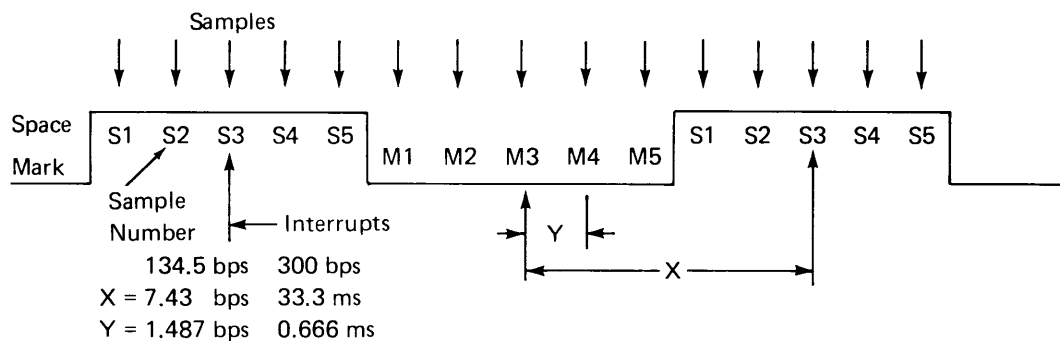
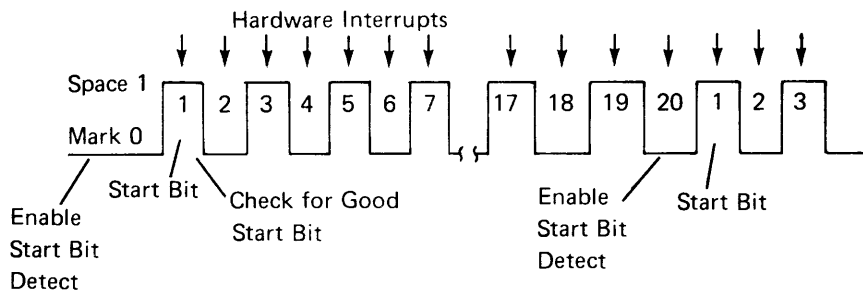

Figure 3-1. Sample Sequence
Figure 3-2. Synchronization Sequence
The network analysis subroutine samples and analyzes an alternating mark and space pattern of either 134.5 bps or 300 bps received by the 5110. The '+received data' line is sampled at a uniform rate of five samples per bit (Figure 3-1). The routine expects five samples of space level, followed by five samples of mark level, and so forth. Deviations from the expected results are called mark errors and space errors. The number of samples in error is accumulated in counters and is displayed at the end of the test. (See *How Data Is Accumulated*.) The total number of bits sampled (both marks and spaces) is also counted. In addition to mark samples and space samples, the network analysis subroutine checks consecutive bit relationships by comparing the position of a pulse from the asynchronous comm/serial I/O card to the five mark samples or space samples. Sampling of consecutive bits is synchronized by a hardware timer interrupt that ideally occurs at the midpoint of the bit (Figure 3-2). The hardware timer is synchronized every 20 bits on a space bit.
3. Number of sample errors for each sample position for both mark and space bits (Figure 3-2)
The third graph plots the occurrences of various lengths of error-free bit strings received during the test. An error-free bit string is a consecutive series of bits in which the center sample (sample 3, see Figure 3-1) was correct. The beginning of an error-free bit string is either the start of the test or the first correct bit after the last error bit. The end of an error-free bit string is the bit preceding an error bit. The error-free bit string is a count of the error-free bits that the 5110 received between failures.